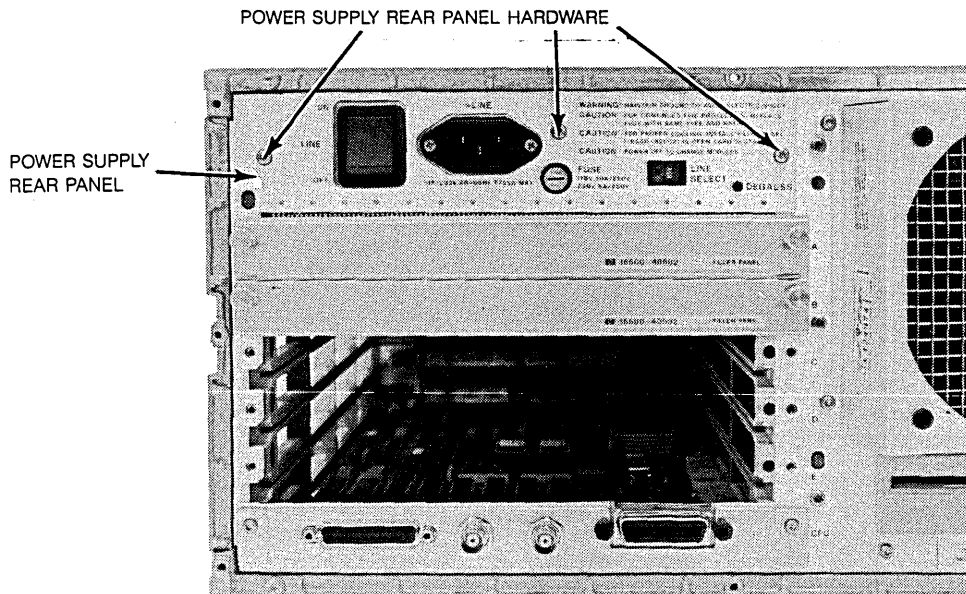

Figure 6-30. Power Supply Rear Panel
- c. Using a Torx T-8 ® driver, remove power supply rear panel (see figure 6-30).